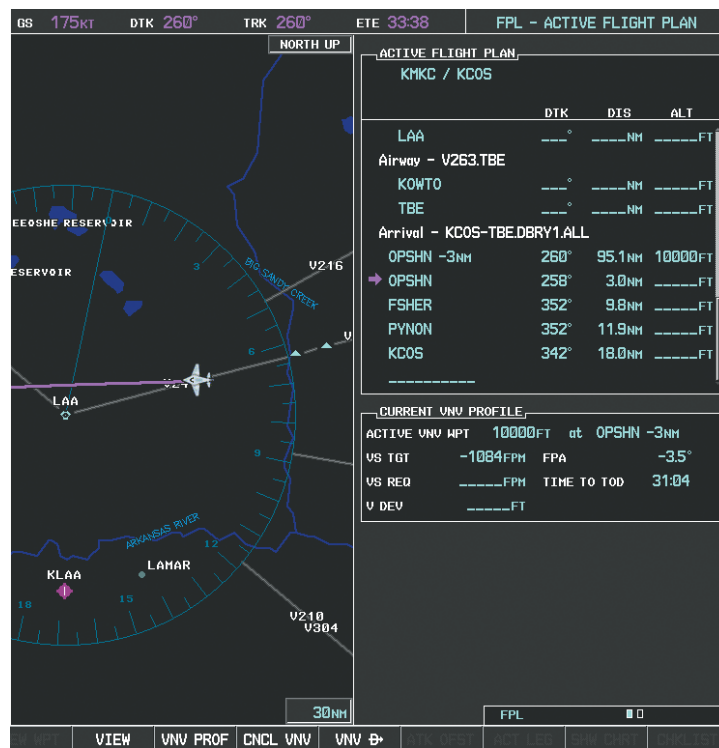

Figure 5-122 Direct-to Active
h) Press the **ENT** Key twice to activate the direct-to. Note, in Figure 5-122, the magenta arrow indicating the direct-to OPSHN after the offset waypoint for OPSHN. The preceding offset waypoint indicates the offset distance and altitude that were previously entered. The remaining waypoints in the loaded arrival procedure have no database specified altitudes, therefore, dashes are displayed. Keep the CDI centered and maintain a track along the magenta line to OPSHN.